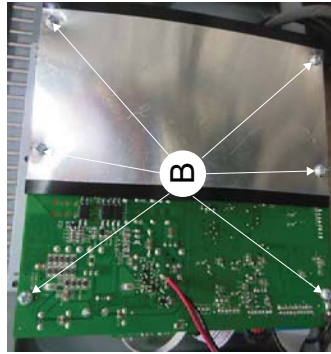

Figure 2
- 1) Loosen 6 screws "B" on the AMP & Power board as shown in figure 2.